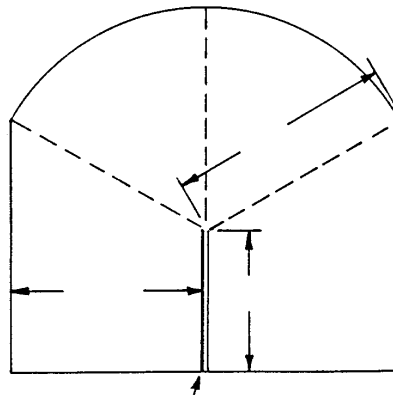

Figure 1
**3.0 Test Specimens** At least five specimens from each direction are required to obtain an average result. They shall be cut as per Fig. 1. A Thwing-Albert Co. TA63 Sample Cutter, Catalog No. 98 may be used.